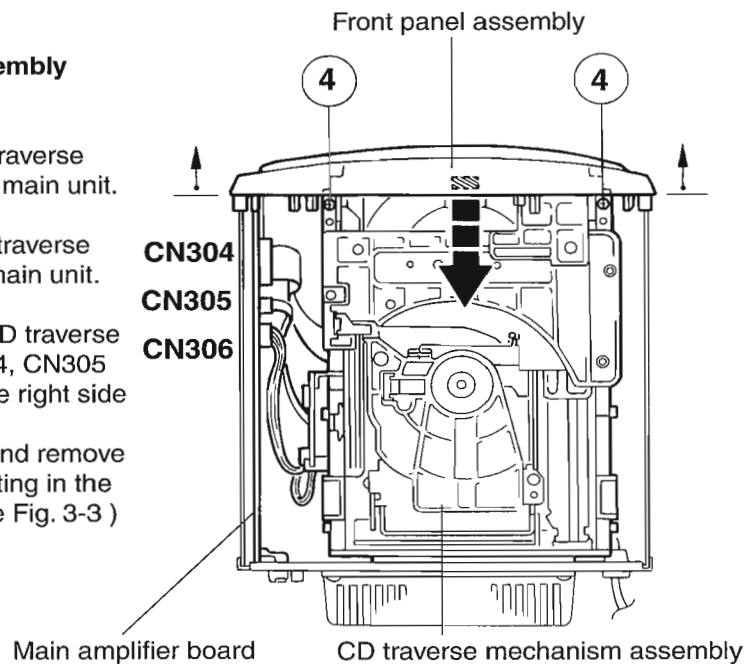

Fig. 3-3
3. Remove the two screws ④ fastening the CD traverse mechanism assembly to the top panel of the main unit. (See Fig. 3-3)
4. Disconnect the card wires connected to the CD traverse mechanism assembly from connectors CN304, CN305 and CN306 on the main amplifier board on the right side of the main unit. (See Fig. 3-3, 4)
5. Tilt the front panel assembly slightly forward and remove the CD traverse mechanism assembly by shifting in the direction of the arrow and lifting upward. (See Fig. 3-3)